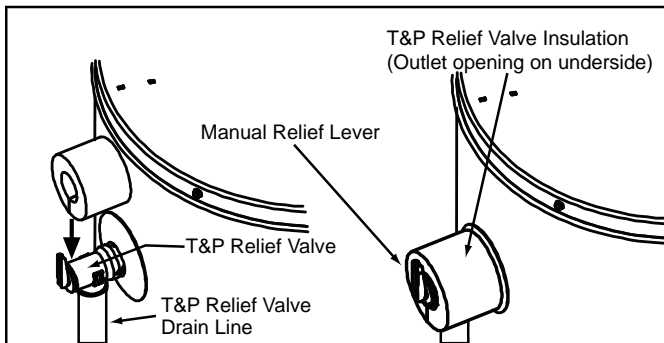

Figure 18.
Locate the temperature and pressure relief valve on the water heater (also known as a T&P relief valve). See Figure 18.
2. Spread the slit open and fit the insulation over the T&P relief valve. See Figure 18. Apply gentle pressure to the insulation to ensure it is fully seated on the T&P Relief Valve. Once seated, secure the insulation with duct tape, electrical tape, or equivalent. **Important:** The insulation and tape must not block the discharge opening or hinder access to the manual relief lever (Figure 18). Ensure a discharge pipe is installed into the T&P valve discharge opening per the instructions in this manual.